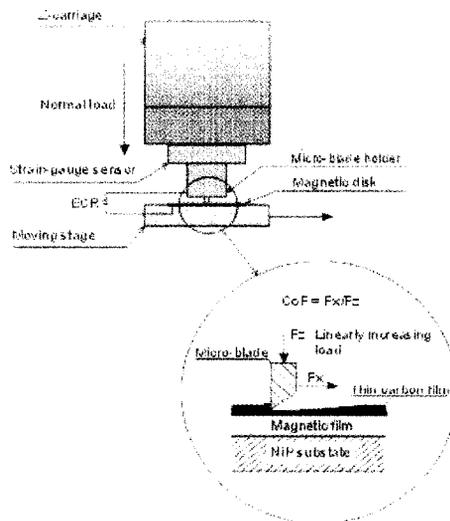

Fig. 2.2 Schematic of scratch test for thin and thick coatings with the Micro-Blade and multiple sensors.
The schematic of the setup used in this study is shown in Figure 2.2. It can provide rotational, translational, or reciprocating motions with speeds ranging from $0.1 \mu\text{m/s}$ up to 10 m/s . The load is applied to the sample by the carriage using F_z for a close-loop feed-back mechanism for stability and accuracy, and can be kept constant or linearly increasing from as low as 0.5 mN (0.05 g) to as high as 200 N . Friction force (F_x), normal load (F_z), electric contact resistance (ECR) and acoustic emission (AE) are measured and recorded at a total sampling rate of 20k Hz . Wear depth, electric capacitance and digital camera are also readily available.